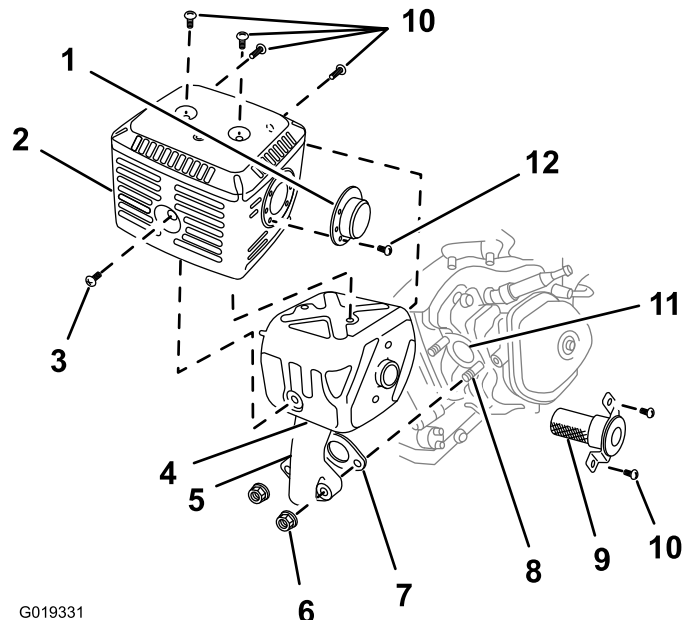

Figure 48
2. Remove the 2 nuts (8 mm) and remove the muffler from the cylinder (Figure 48).
- Remove the 3 screws (4 mm) from the exhaust deflector and remove the deflector (Figure 48).
- Remove the screws (5 mm and 6 mm) from the muffler protector, and remove the muffler protector (Figure 48).
- Remove the screw (4 mm) from the spark arrester and remove the spark arrester from the muffler (Figure 48).